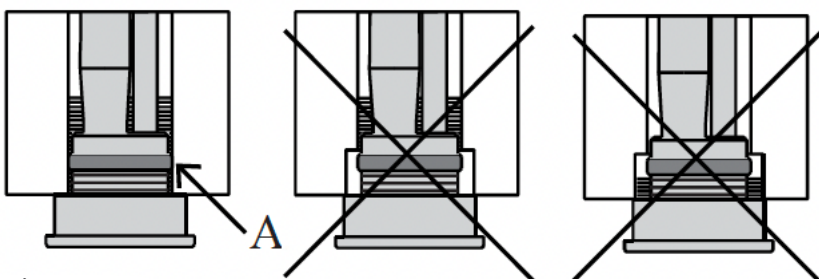
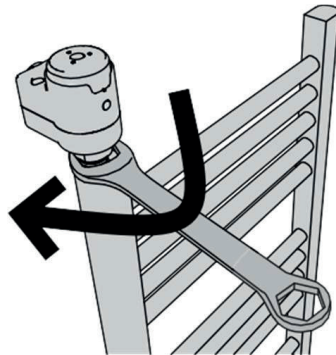

Fig. 4
Fig. 6
5. Then using a 27 mm spanner screw the ATLANTIS heating element until the last nipple thread turn and if necessary continue in order to have the regulating box facing forward (Fig. 6). Make sure that the ATLANTIS gasket is fully sealed to the female thread of the towel rail (Fig. 4).